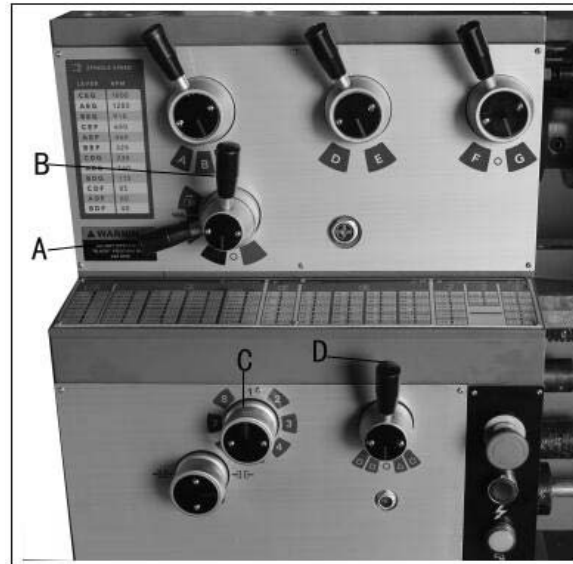

Figure 21
2. Set selector levers (A, B, C, & D, Fig. 21) to desired rate.
2. Set selector levers (A, B, C, and D, Fig. 21) to desired rate.